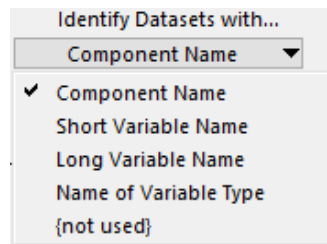

Figure 8. Options for labeling datasets in overlay plots.
- (1) VS Visualizer can show multiple datasets overlaid using the same horizontal and vertical axes. Each dataset can be represented with lines, symbols on some of the point locations, or both. The current settings are displayed in the white area on the left side of the window. This screen allows the first 20 to be configured. To change the settings for one of the datasets, select the numbered button and then click on the color, line style, and symbol buttons below ((2), (3), and (4)).
- ② Color specification for the selected dataset number. When a dataset button ① is highlighted, the associated line color can be changed using these buttons.
- ③ Line style specification for the selected dataset number. When a dataset button ① is highlighted, the associated symbol can be changed using these buttons.
- ④ Symbol specification for the selected dataset number. When a dataset button ① is highlighted, the associated symbol can be changed using these buttons.
- ⑤ **X and Y Axes** selection. This drop-down list has two options: **No Axes** or **Axes**.
- ⑥ **Frame** selection. This drop-down list has three options: **No Frame**, **Frame** (a plain rectangular frame), or **Frame with Ticks**.
- ⑦ **Grid** selection. This drop-down list has three options: **No Grid**, **Coarse Grid**, or **Fine Grid**.
- ⑧ Dataset identifier. This drop-down list has options to help determine how individual plot curves are identified in the legend (Figure 8).
- ⑨ Maximum legend width. VS Visualizer always shows the legend in the upper-right corner of the plot area. If the legend size exceeds this limit, then it is not shown. (However, you can show/hide the legend by using the L (legend) or V (legend with values) keys.)